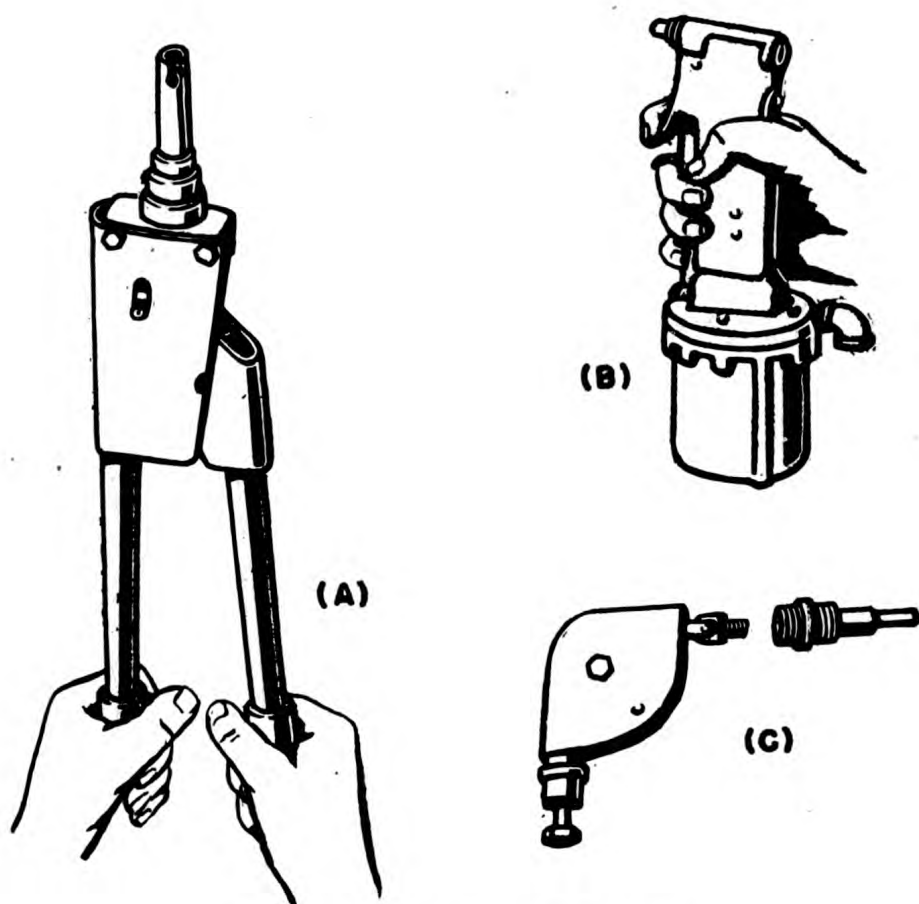

Figure 89.—Cherry rivet guns.
Figure 89 shows the two types of guns used for
Sometimes you may want to drive a cherry rivet in a place where the rivet could not be reached by a straight pull. Then you use an ANGLE ADAPTER which is available for both hand and pneumatic guns. Figure 89 (C) shows an angle adapter. It is inserted between the gun and the pulling head. The pull of the gun is transmitted through a chain drive which passes over a sprocket.